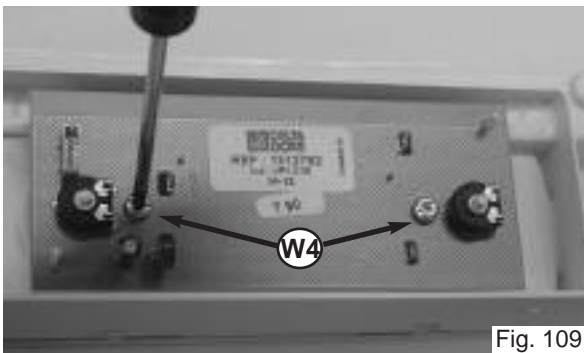

Fig. 109
- To remove the display PCB, remove the two screws **W4** and lift the PCB out (see Fig. 109);